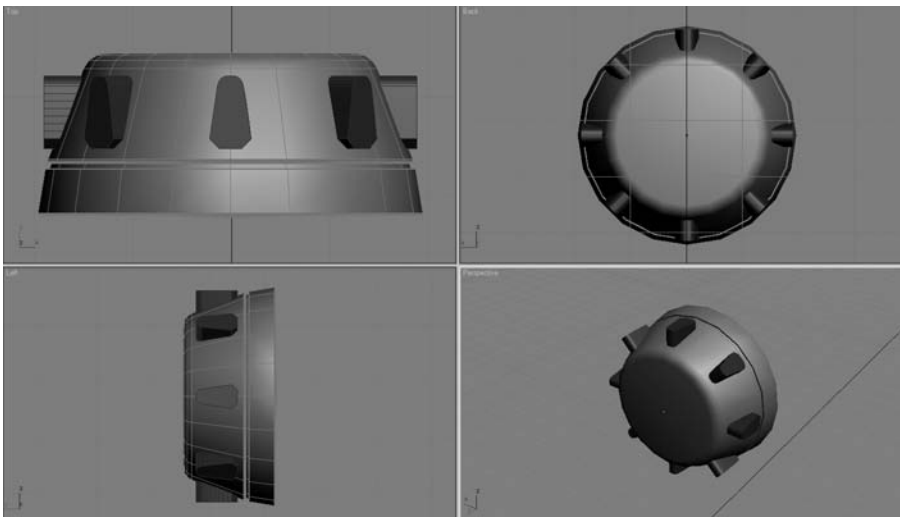

Figure 5.80
11. Click Affect Pivot Only again to disable it. Press A to turn on Angle Snap. Change to the Rotate tool while holding down the shift key and rotate 45 degrees in either direction around the thruster dish. When you release the mouse button, the Clone dialog should open. Select Copy, enter a value of 7 for Number of Copies, and press OK. This will place seven copies of the object, each at 45 degrees of rotation around the thruster, making a total of eight Boolean objects that are 360 degrees around, as shown in Figure 5.80.